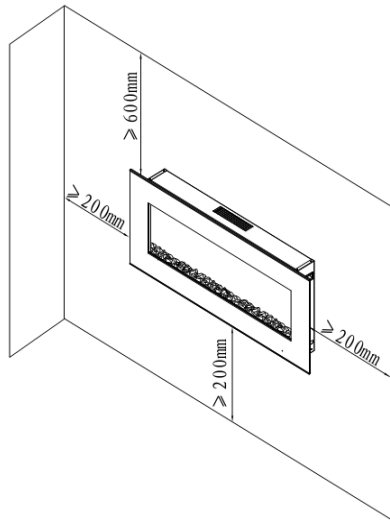

Fig 3
2. Referring to Fig. 3 below select a suitable position in which to mount the heater